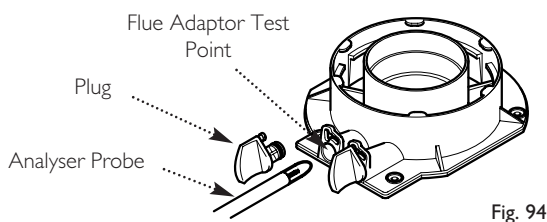

Fig. 94
7. Remove the plug from the flue adaptor test point. Insert the analyser probe and allow time for the reading to settle (Fig. 94).